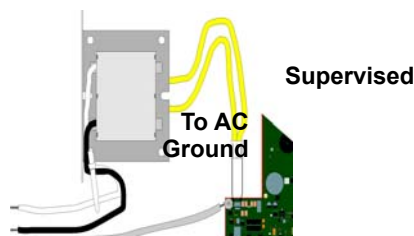

Figure 4.3 120VAC Power Connection
1. Remove the top two annunciator screws, do not discard them they will be reused. See Figure 4.3 for annunciator screw location.
2. Set the dead front into the cabinet as shown in Figure 4.3.
4. Insert the two screws with the star washers into the bottom of the cabinet to secure the dead front into place. See Figure 4.3.
1. Remove the 2 annunciator screws, do not discard them. See Figure 4.3.
2. Remove the two screws and star washers from the bottom of the cabinet. See Figure 4.3.
4. Reinsert the two annunciator screws. See Figure 4.3.
To install the AC connection, connect the AC terminals to the power source as shown in Figure 4.3. It may be necessary for a professional electrician to make this connection.